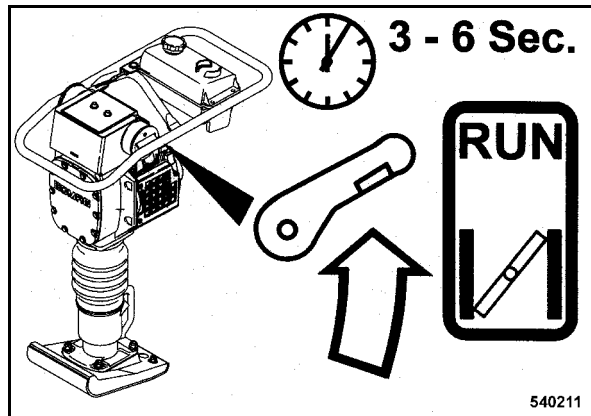

Fig. 16
- Open the choke (Fig. 16) 3 to 6 seconds after the engine has started running.